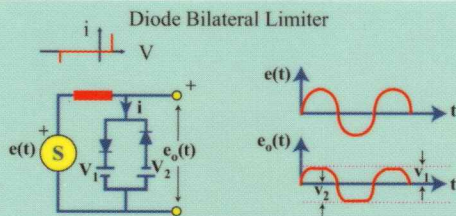

Figure 10
- A diode bilateral **limiter** is an extension of the clipping circuit (Fig. 10).